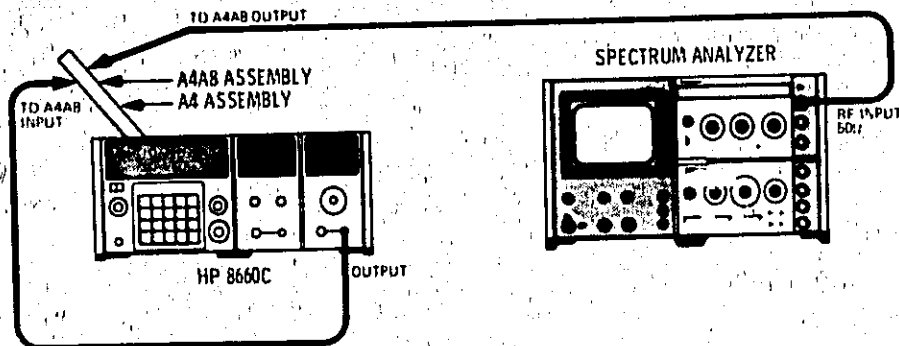

Figure 5-6. 100 MHz Band-pass Filter Adjustment Test Setup
j. Connect the equipment as shown in Figure 5-6. If necessary, readjust the analyzer controls to center the 100 MHz signal on the display.